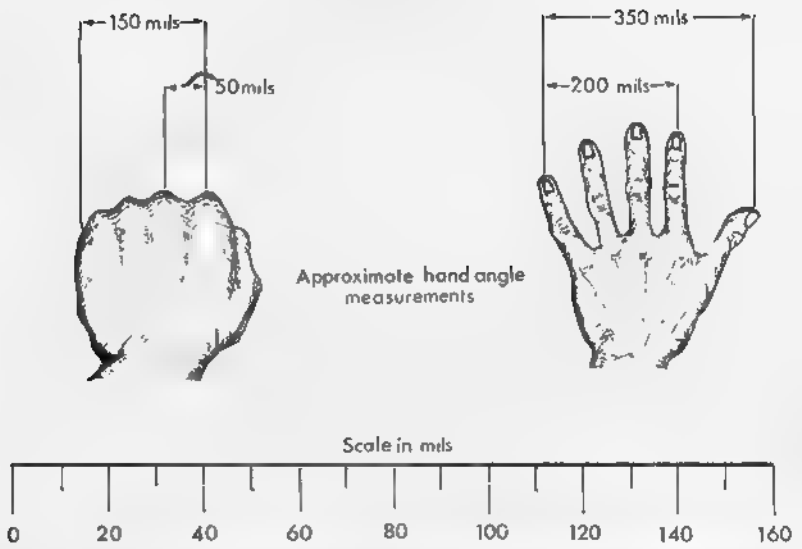

Fig 11.—Hand angle scale
- Revise the squad on the sequence of a fire control order and methods of indication (see *Infantry Training, Volume I, Infantry Platoon Weapons, Pamphlet No. 2, Fieldcraft. (All Arms) 1954. Lessons 5 and 11*). Include hand angles and, if necessary allow the squad to check them against the prepared scales (see Fig 11).